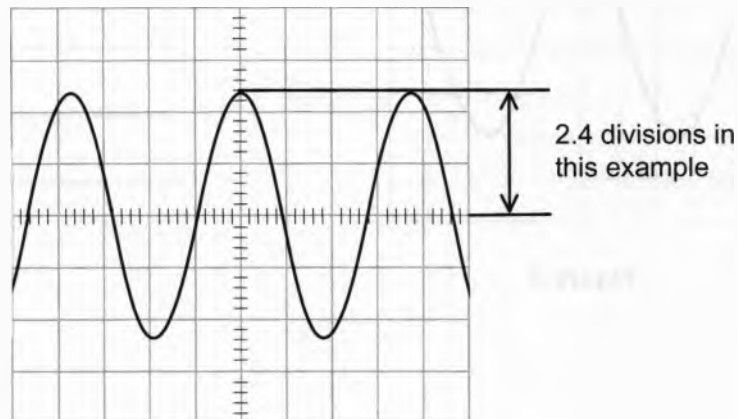

Figure 7
6. Count the number of divisions from the centre line to the horizontal line that the peak touches (see Figure 7).
For example, if the *Vertical Attenuation* setting is 5V/division, the peak voltage of the signal in Figure 7 is: